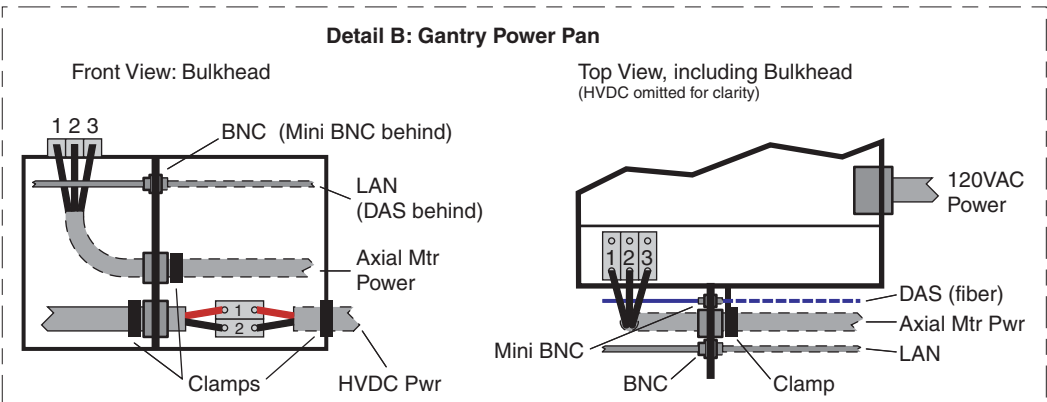

Figure 2-18 Power Pan Connections
- 2.) Install the cables to the gantry power pan. The power pan is located on the rear of the gantry at its base. See “Detail B” (Figure 2-18) of the system interconnect drawing for connections.
Observe correct phase rotation when connecting the axial motor power. Phases one, two and three should be connected left to right, as shown in Figure 2-18.